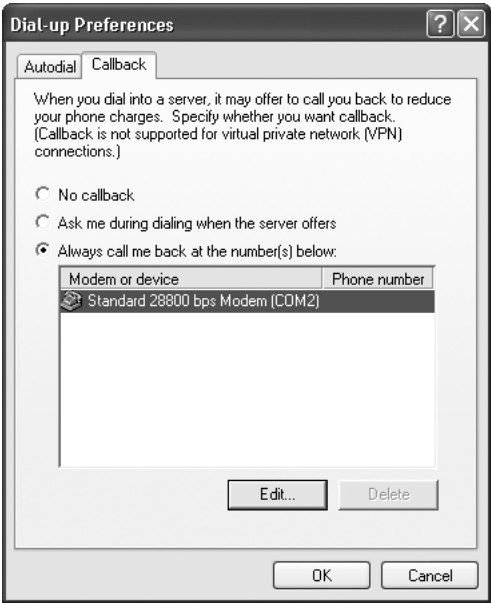

Figure 15-10 Dial-up Preferences, Callback tab
- Remember that Multilink and callback do not work together; you must select one or the other. Because nobody has developed technology to perform multi-line callbacks, only single-line callbacks are possible. Figure 15-10 shows a configuration setting on a connection object that allows the caller to define a specific callback number to complete a dial-up connection (to access the window shown, select Start|Control Panel|Network Connections, then select the connection, then select the Dial-up Preferences entry in the Advanced menu at the top of the Network Connections window).